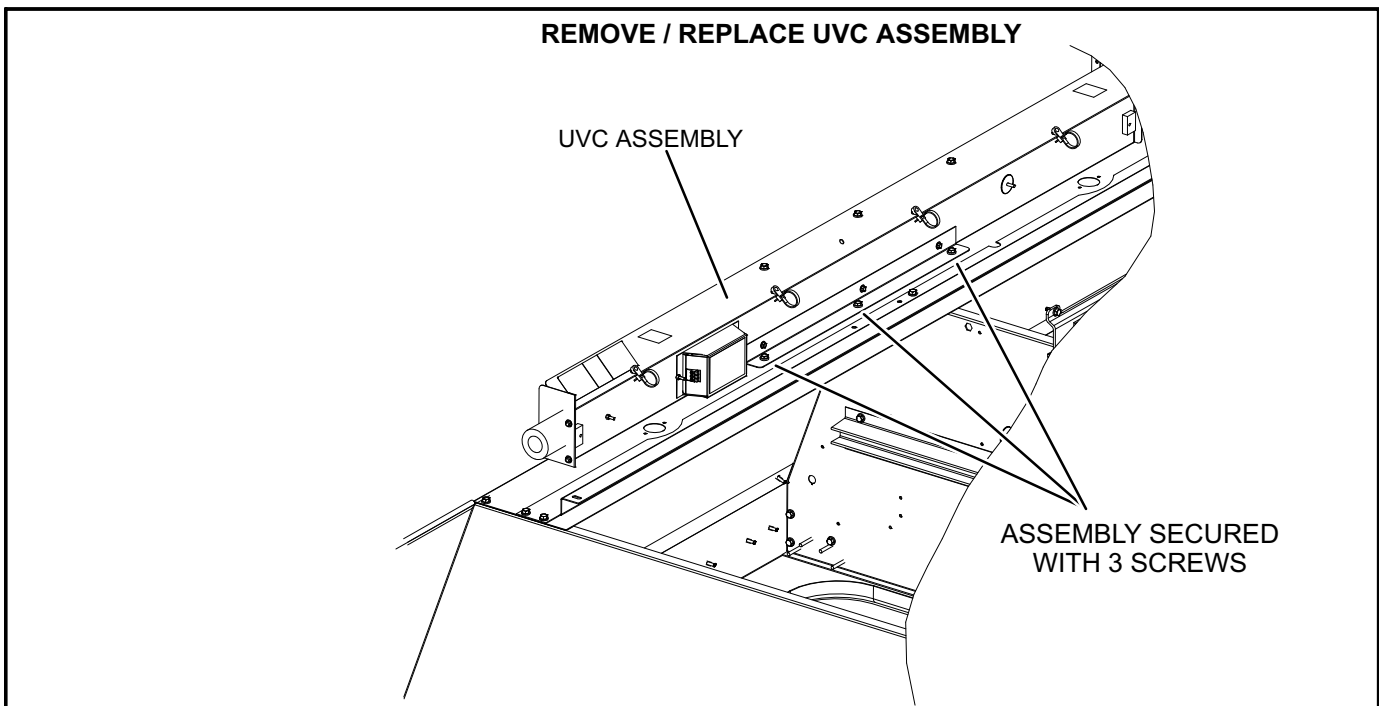

FIGURE 46
- 5- Remove and retain the (3) mounting screws securing the UVC assembly. Carefully remove the complete UVC assembly out through the blower access door. See figure 46.